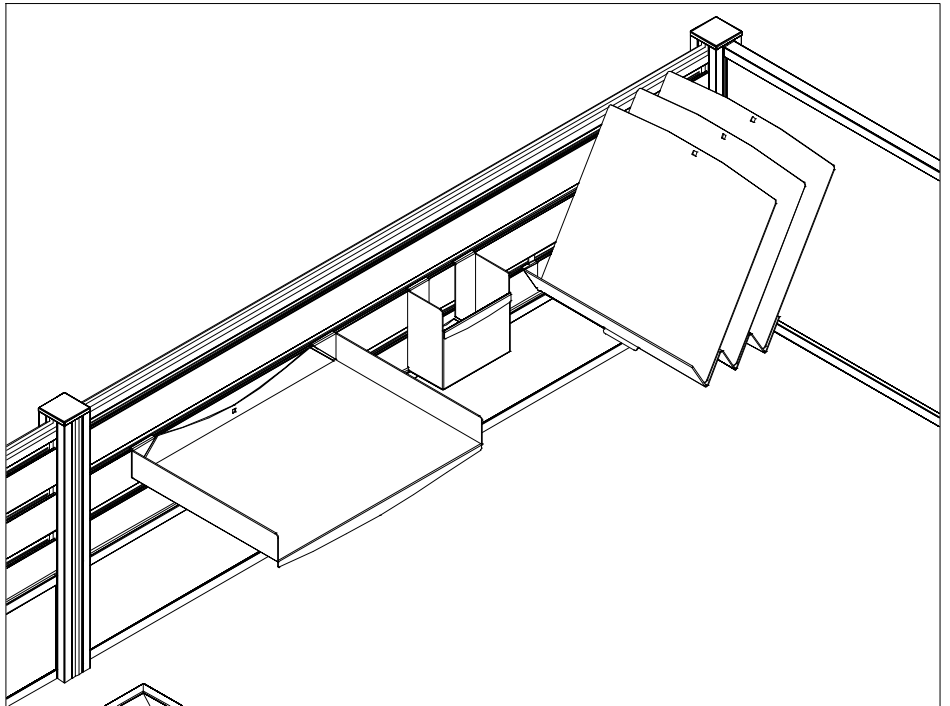

FIGURE 2
2. Place the dividers for the paper sorter (Figure 2).